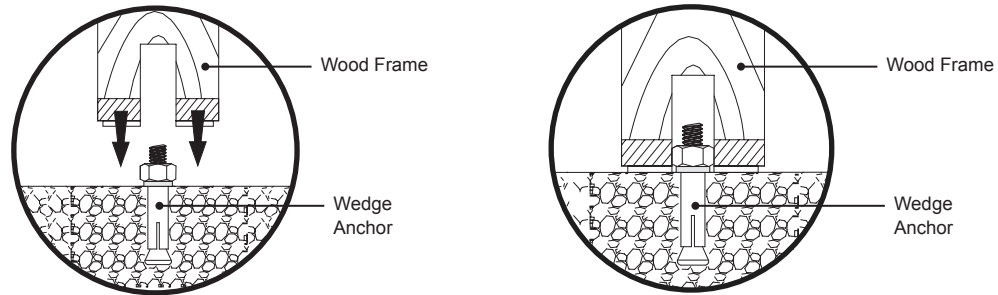

Figure 23. Wood Frame Placement
- ❶ Place the unit over each secured wedge anchor.
- ❷ Once the holes are lined up with the wedge anchors, gently lower the unit down (Figure 23).
- ❸ Firmly press the unit onto the wedge anchors to finish the installation.